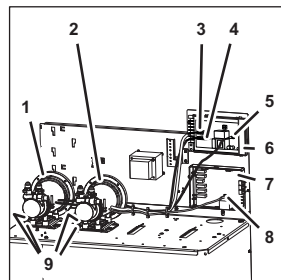

Figure 57
4. Disconnect the plug (Figure 57/3) of circulation pump 1 (Figure 57/2) on control system 2(Figure 57/6).
5. Disconnect the plug (Figure 57/8) of circulation pump 1 (Figure 57/2) on control system 1(Figure 57/7).
6. Disconnect the plug (Figure 57/4) of circulation pump 2 (Figure 57/1) on control system 2(Figure 57/6).
7. Disconnect the plug (Figure 57/5) of circulation pump 2 (Figure 57/2) on control system 2(Figure 57/6).
8. Remove the fastening bolts (Figure 57/9) from the relevant circulation pump (Figure 57/1 and 2).
9. Lift the relevant circulation pump (Figure 57/1 and 2) out of the unit.
10. Position the new circulation pump (Figure 57/1 and 2) within the unit.
11. Attach the circulation pump (Figure 57/1 and 2) using the fastening bolts (Figure 57/9).
12. Connect the plug (Figure 57/5) of circulation pump 2 (Figure 57/2) to control system 2(Figure 57/6).
13. Connect the plug (Figure 57/4) of circulation pump 2 (Figure 57/1) to control system 2(Figure 57/6).
14. Connect the plug (Figure 57/8) of circulation pump 1 (Figure 57/2) to control system 1(Figure 57/7).
15. Connect the plug (Figure 57/3) of circulation pump 1 (Figure 57/2) to control system 2(Figure 57/6).
16. Open the shut-off valve (Figure 57/1).